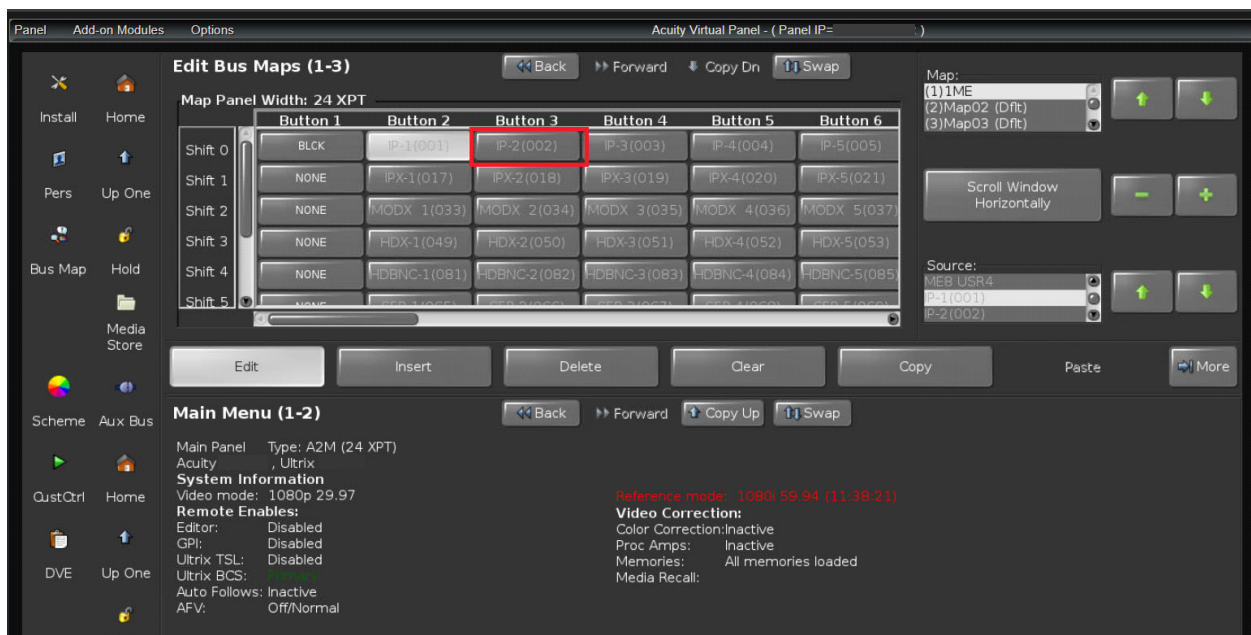

Figure 2 Example of an Acuity Virtual Panel > Edit Bus Maps
On each button in the Edit Bus Maps table there is a number (Tally ID) and a name (source name). Usually the name can be correlated with router sources. For example, in **Figure 2**, Button 3 is assigned to IP-2 (002).